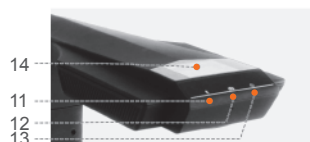

Figure 2
Step 2: Per Figure 2, tilt the lamp and camera base slightly forward to insert the catch into the slot, and then press the lamp and camera base down to snap into place.